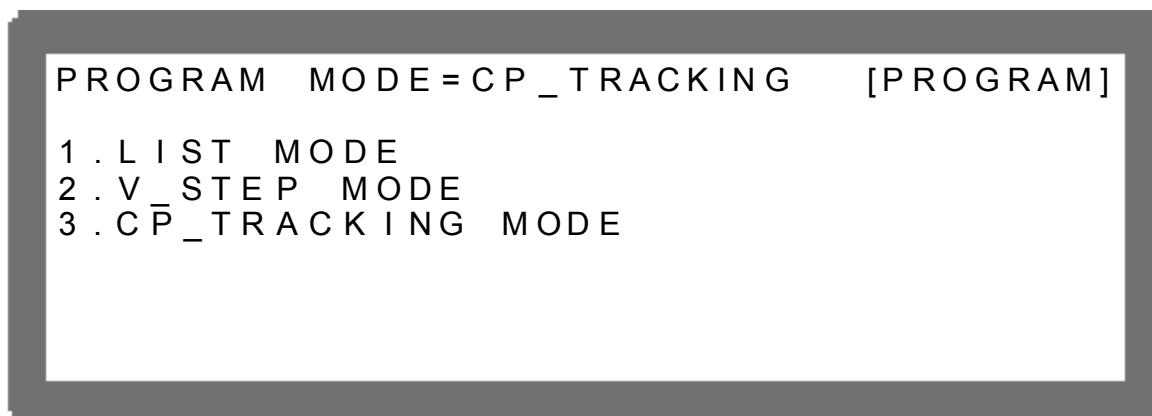

Figure 4-1
2. It displays PROGRAM options as Figure 4-1 shows.
5. Press “” to return to Figure 4-1.
4. Press "" to return to Figure 4-1.